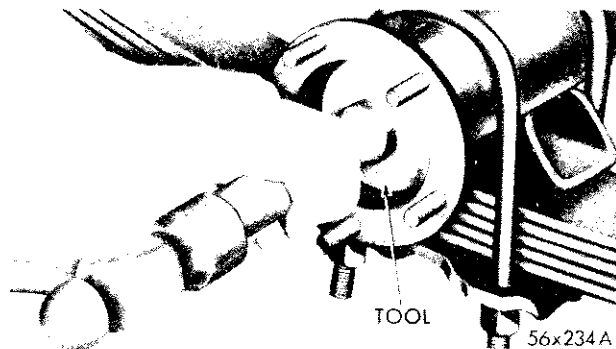

Fig. 6—Installing Axle Shaft Inner Oil Seal
- (1) Install inner oil seals with Tool C-839 (Fig. 6).
- (2) Starting at one end of the axle housing, install a .040 inch shim pack on the flange studs.